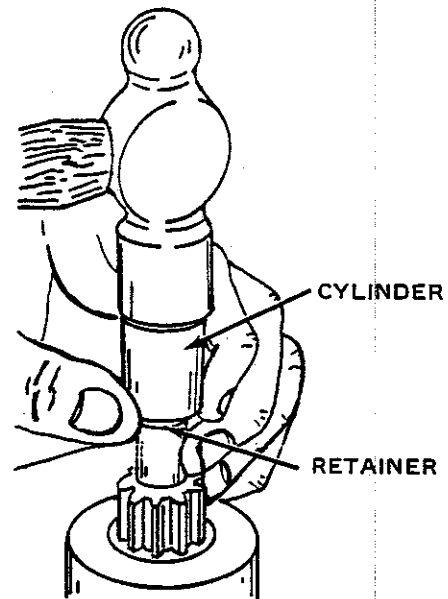

Figure 6-5. Removing Retainer from Snap Ring
1. Remove screws (2,3) and disconnect field coil connection (1) from solenoid switch (4). Remove screws (5), lock washers (6) and solenoid switch (4). Remove gasket (7), spring (8) and contact assembly (9). Press out lever pin (11) and remove plunger (10).
2. Remove through bolts (13) and separate drive housing (12) from field frame (51). As necessary remove bushing (14), wick plug (15) and wick (16). It is not necessary to remove dowel pin (21) unless replacement is required. Remove nut (18), lock washer (19), lever stud (20) and shift lever (17).
3. Separate end frame (22) from field frame (51). Remove bushing (23) and
wick (24). Separate armature (33) and drive assembly (29). Remove thrust collar (32) and brake washer (34). Refer to figure 6-5 and remove drive assembly (29) from armature (33) by sliding a cylinder shaped tool onto armature shaft so it butts against pinion stop. Tap cylinder with a hammer driving stop collar (30) toward armature and off of the retaining ring (31). Remove the retaining ring (31), stop collar (30), drive assembly (29) and washer (28).